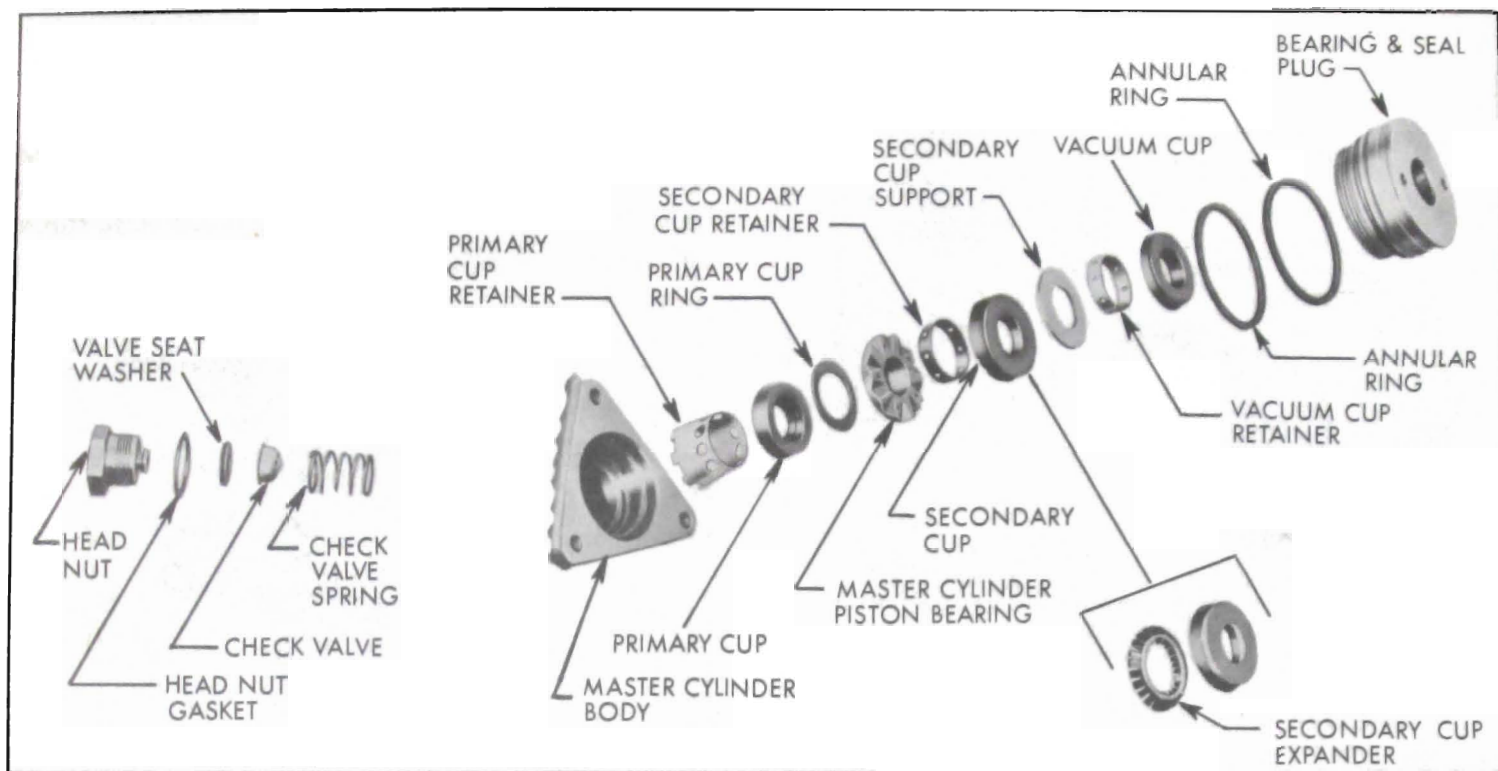

Figure 9-21—Hydraulic Cylinder Assembly—Exploded
16. From inside plug, remove secondary cup expander, secondary cup, flat cup support, vacuum cup retainer and vacuum cup. See figure 9-21.
17. From bore of master cylinder body, pull out secondary cup retainer, piston bearing, flat primary cup ring, primary cup and conical primary cup retainer. See figure 9-21.